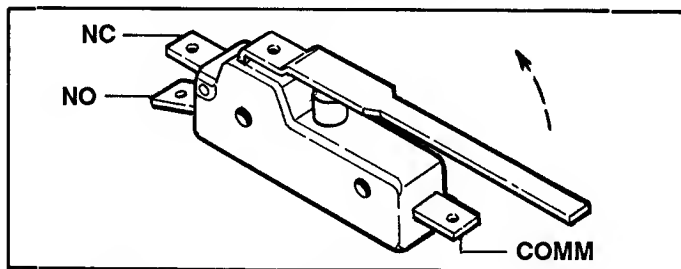

FIGURE 3.13
1. Disconnect wire connectors from terminals. See Figure 3.13.